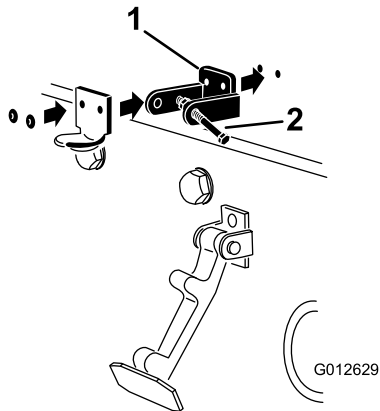

**Figure 3**
- Remove the 2 rivets securing the hood-latch bracket to the hood (Figure 3). Remove the hood-latch bracket from the hood.